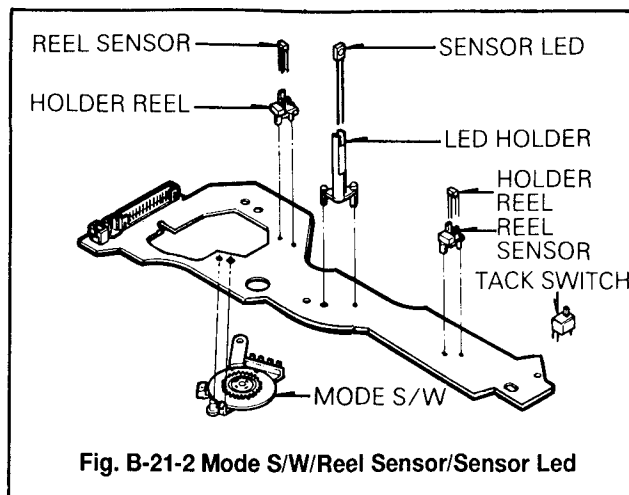

Fig. B-21-2 Mode S/W/Reel Sensor/Sensor Led
- 2) Remove two screws(A), (B) and then remove the Junction P.C.B Assembly
- 4) Remove the Reel Sensor, Sensor LEDS and each holder from the Junction P.C.B(Fig. B-21-2).